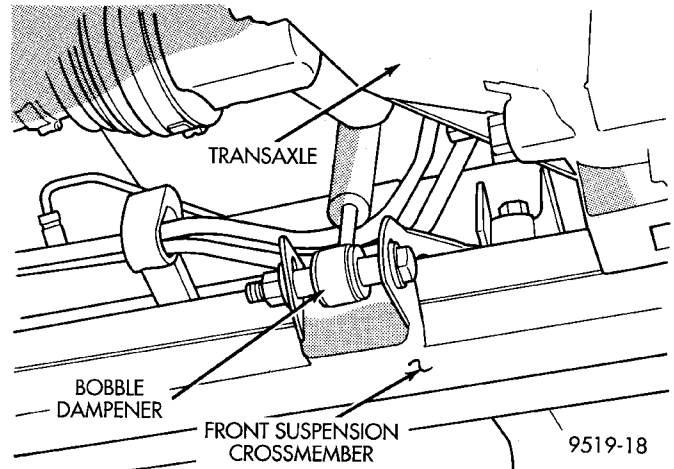

Fig. 5 Engine/Transaxle Bobble Dampener
(2) Raise vehicle on jack stands or centered on a frame contact type hoist. See Hoisting in the Lubrication and Maintenance section of this manual, for the required lifting procedure to be used for this vehicle.
(3) Remove both front wheel and tire assemblies from the vehicle.
(4) Remove engine/transaxle bobble dampener, on vehicles so equipped, from front suspension crossmember (Fig. 5). Bobble strut does not need to be removed from transaxle assembly.